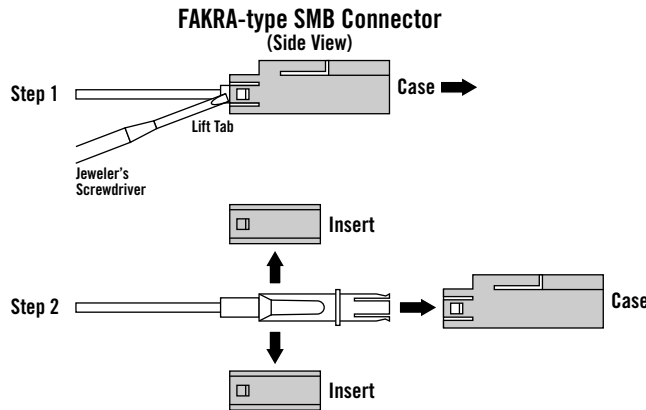

Figure 12. Removing the plastic case and inserts.
- When routing the cable through small openings, consider removing the plastic cases and inserts from connectors (see Figure 12 on page 9).
NOTE: For the Sony DRN-XM01 Digital Audio Receiver, use a small jeweler's screwdriver to remove the plastic case and inserts from each FAKRA-type SMB connector, as shown in Figure 12 below.